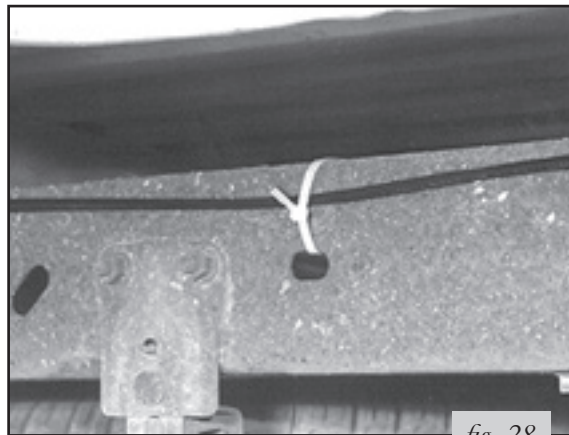
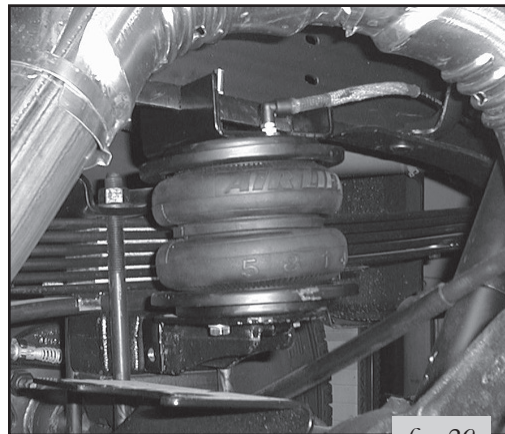
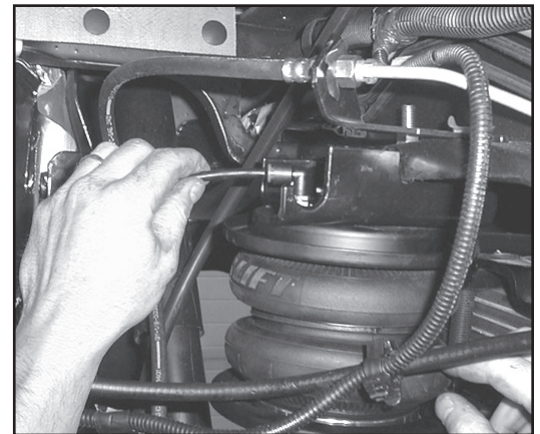

fig. 28
fig. 29
fig. 30
5. Push the inflation valve through the hole and use the rubber washer (EE), flat washer (DD), and another 5/16" nut (GG) to secure it in place. Tighten the nuts to secure the assembly in place.
6. Route the air line along the frame to the air fitting on the air spring. Keep at least 6" of clearance between the air line and heat sources, such as the exhaust pipes, muffler, or catalytic converter. Avoid sharp bends and edges. Use the plastic tie straps (BB) to secure the air line to fixed, non-moving points along the chassis. Be sure that the tie straps are tight, but do not pinch the air line. Leave at least 2" of slack to allow for any movement that might pull on the air line (Fig. 28).
7. The passenger side air line requires a thermal sleeve (L). Insert onto air line before installing into fitting.
8. Cut off the air line leaving approximately 12" of extra air line. A clean square cut will ensure against leaks. Insert the air line into the air fitting (Fig. 29). This is a push to connect fitting. Simply push the air line into the 90° swivel fitting until it bottoms out (9/16" of air line should be in the fitting) (Fig. 30).